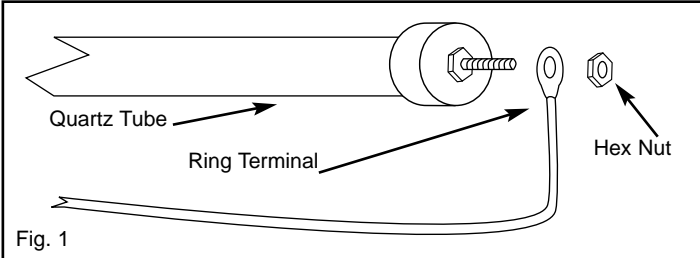

Fig. 1
4. Install ring terminal on factory installed wire assemblies on the threaded studs on both sides of element. See Fig. 1.